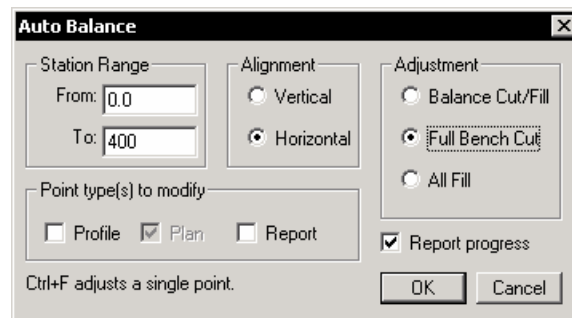

Figure 4.3: Edit | Auto Balance Dialog Box Set Up to Horizontally Align to Full Bench
The exercise above could have been accomplished almost in one step with the Edit | Auto Balance function. Figure 4.3 shows how you would set up the Auto Balance dialog box to perform this.
7. Edit | Undo some of your alignment above so that you can see there is excessive fill once more. Use Edit | Auto Balance to re-align to full bench (as shown in the Figure 4.3- note *Station Range*). You may want to type <F1> once the dialog box is open to see online help.